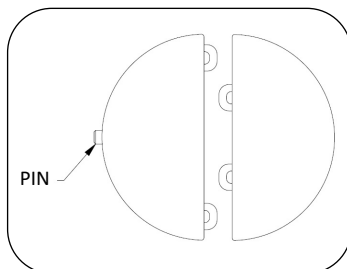

FIG. 1 – COVER PLATE DETAIL
4. Remove socket cover plate and separate halves. Use a flat blade screwdriver to pry up edge opposite cover plate pin, see Fig. 1.
7. Place cover plate half with pin into socket, see Fig. 1. Place second cover plate half in socket.